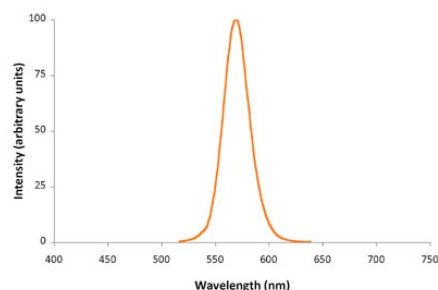
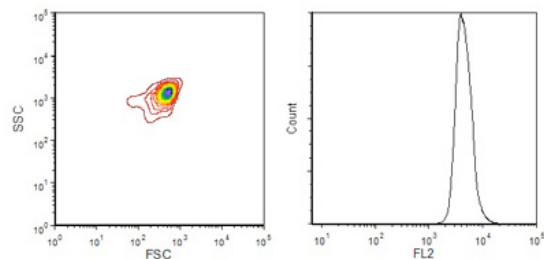

Figure 1. Emission spectrum of Zepto™ Ultra Yellow Carboxyl Microspheres.
Figure 2. FSC-SSC plot and fluorescence histogram in the PE channel of Zepto™ Ultra Express Yellow Microspheres on a flow cytometer.
The emission spectrum is illustrated in Figure 1. They are a suitable for a wide range of fluorescent assays such as flow cytometry-based assays. Their Forward Scatter (FSC) vs. Side Scatter (SSC) plot and fluorescence histogram in the PE channel (405nm, 488nm excitation; 575nm emission) on a typical flow cytometer are illustrated in Figure 2.
1. Gate on the single population of microspheres on FSC vs. SSC plot (refer to Figure 2)